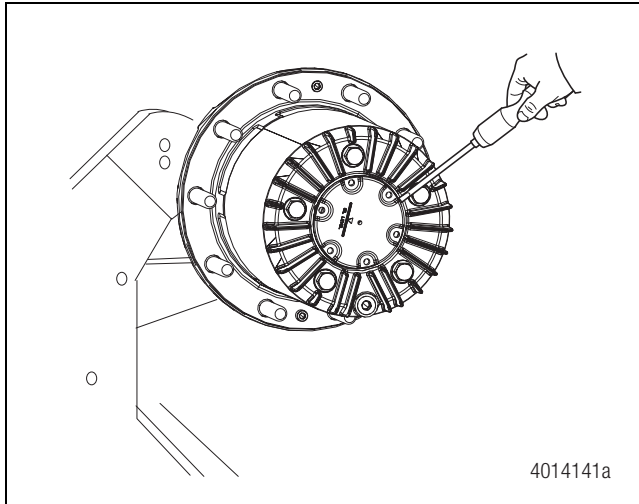

Figure 4.3
- Use a screwdriver or pry bar to pry up and remove the hub cover. Figure 4.3.